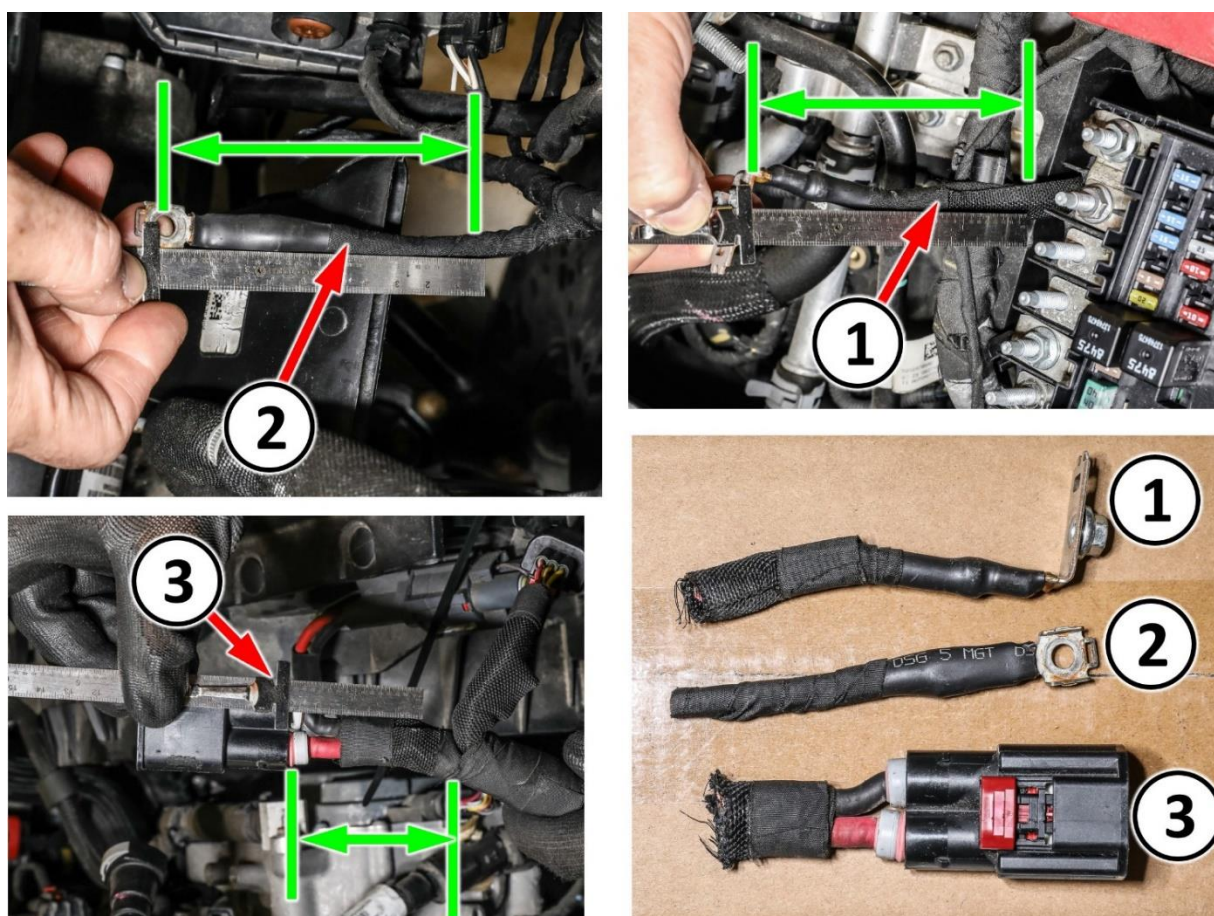

Figure B15 – Remove EHPS Wire Harness Terminals
32. After verification, cut EHPS power supply eyelet D6630J approximately 4 inches behind eyelet 90-degree bend and set aside for return **with pump** (Figure B15).
33. After verification, cut ground eyelet G908A approximately 4 inches behind center of eyelet hole and set aside for return **with pump** (Figure B15).
34. Cut 2way EHPS connector D2704A approximately 2 inches behind connector body taking special care not to cut through 3way connector D2704B circuits. Set aside for return **with pump** (Figure B15).